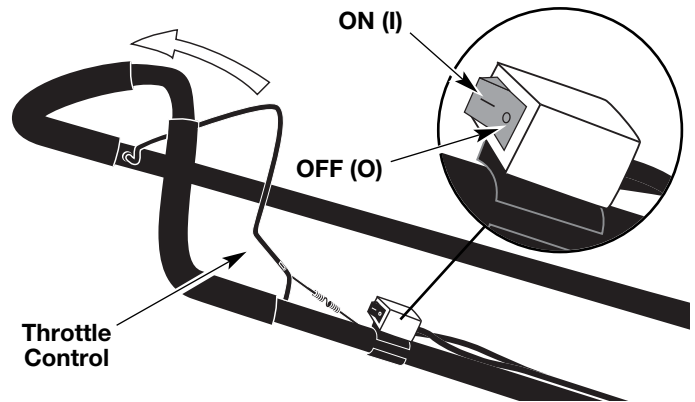

Fig. 10
3. Put the On/Off Stop Control in the **ON [I]** position (Fig. 10).